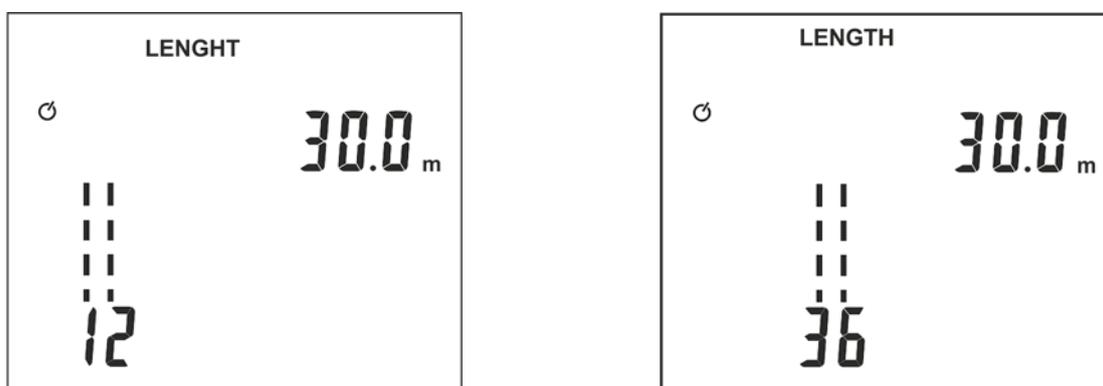

Fig. 14: Cable length measuring results
6. Press the **TEST/←** key to measure length with reference to pair "1-2" for RJ45 and RJ11 cables (see Fig. 14 – left side) or for COAX cables (see Fig. 14 – right side).